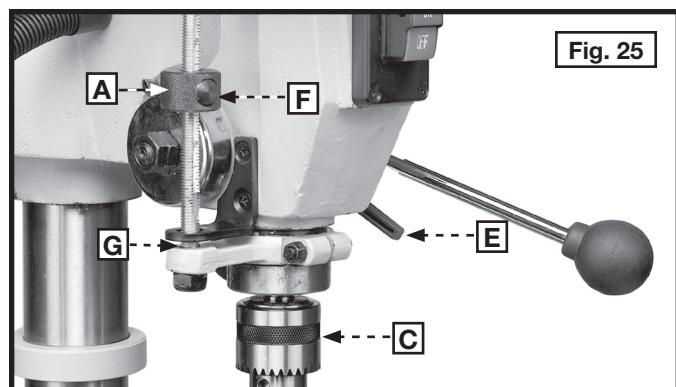

Fig. 25
When you need to drill a number of holes to the same depth, use the stop nut (A) Fig. 25 on the threaded stop rod (B).
2. Lower the chuck (C) Fig. 25 to your depth. Tighten the quill locking lever (E).
- NOTE:** The Quill-locking lever (E) Figs. 25 and 26 is spring-loaded and can be repositioned. Pull out on the handle, position it on the hub (D), and allow the handle to go back in.
3. Depress the spring-loaded button (F) Fig. 25, and move the stop nut (A) until the bottom of the nut (A) contacts the stop (G). Hold the pinion shaft handle and loosen quill-locking lever (E). Rotate the pinion shaft handles to return the chuck and quill to the "up" position.
5. Drill a test hole to check the depth. Readjust if necessary by rotating the stop nut (A) Fig. 25 for fine adjustment. You will not have to depress the button (F) while rotating the stop nut (A) for fine adjustment.